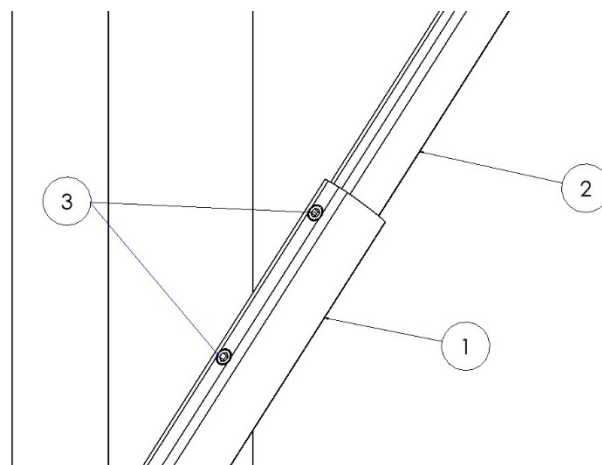

Figure 3.13
Secure the lower arm (1) to the upper arm (2) by tightening the supplied 1/2" x 3/8" set screws (3) in the pre-tapped holes in the lower arms on both sides of the dump box. (Figure 3.13)